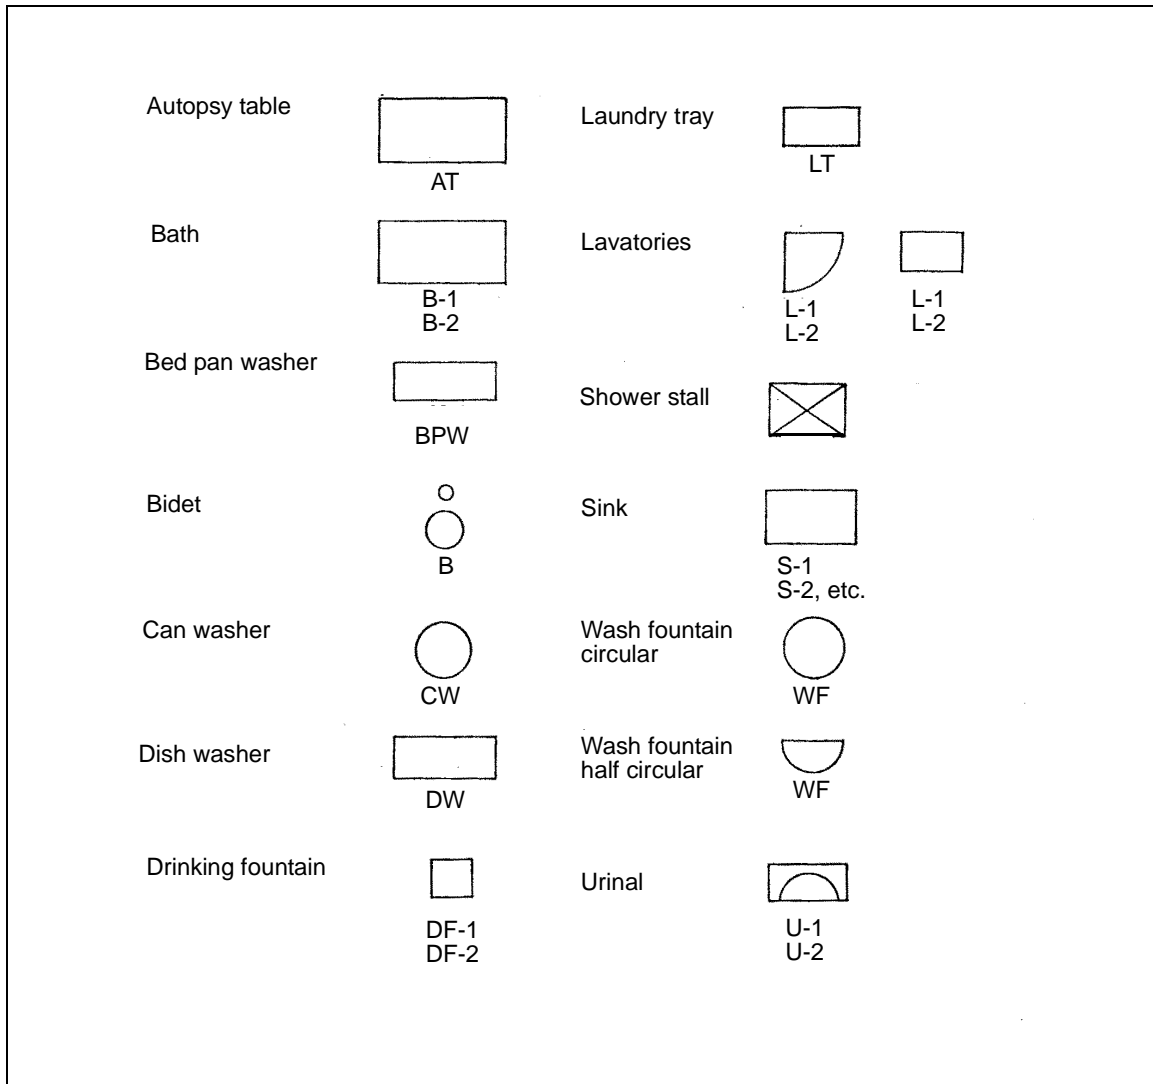

Figure B-13. Plumbing Symbols
- Plumbing Symbols (*Figure B-13, page B-18*).